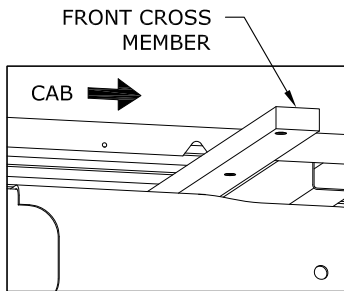
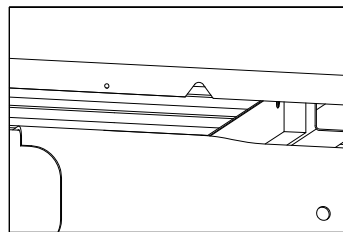
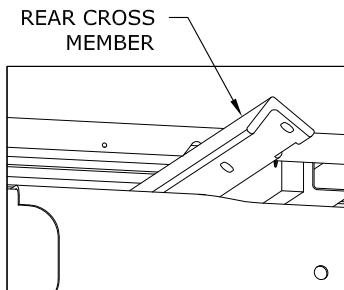
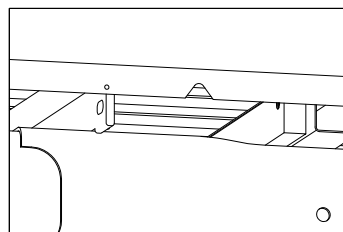

FIGURE B1
FIGURE B2
FIGURE B3
FIGURE B4
**1. Place Cross Members.** Using the notch cut in the bed flange inside the passenger side rear wheel well, slide the cross member across the frame until it spans both frame rails, See figure B1. Rotate cross member so that the holes on the end of the cross member are closest to the floor of the bed. Push cross member forward against bed cross member, See figure B2. Using the notch for clearance install the rear cross member with the angle oriented so that the leg with the slotted holes is facing the front of the truck, See figure B3. Hold the rear cross member in an inverted V position, and push the angle across the frame. Slide the cross member toward the rear of the truck so that there is approximately 10 inches between both cross members. Then rotate the cross member so that the leg with the slotted holes is vertical, See figure B4.